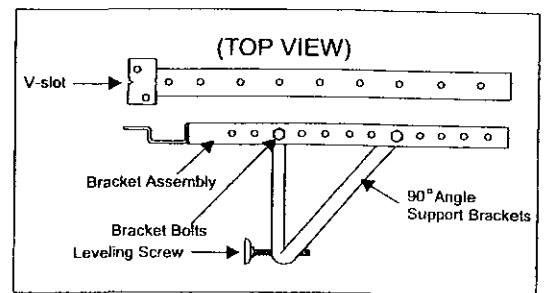

Fig 13
A Attach the **bracket assembly** to **90° angle support brackets** (Fig 13) using (2) **1 1/2"** bolts